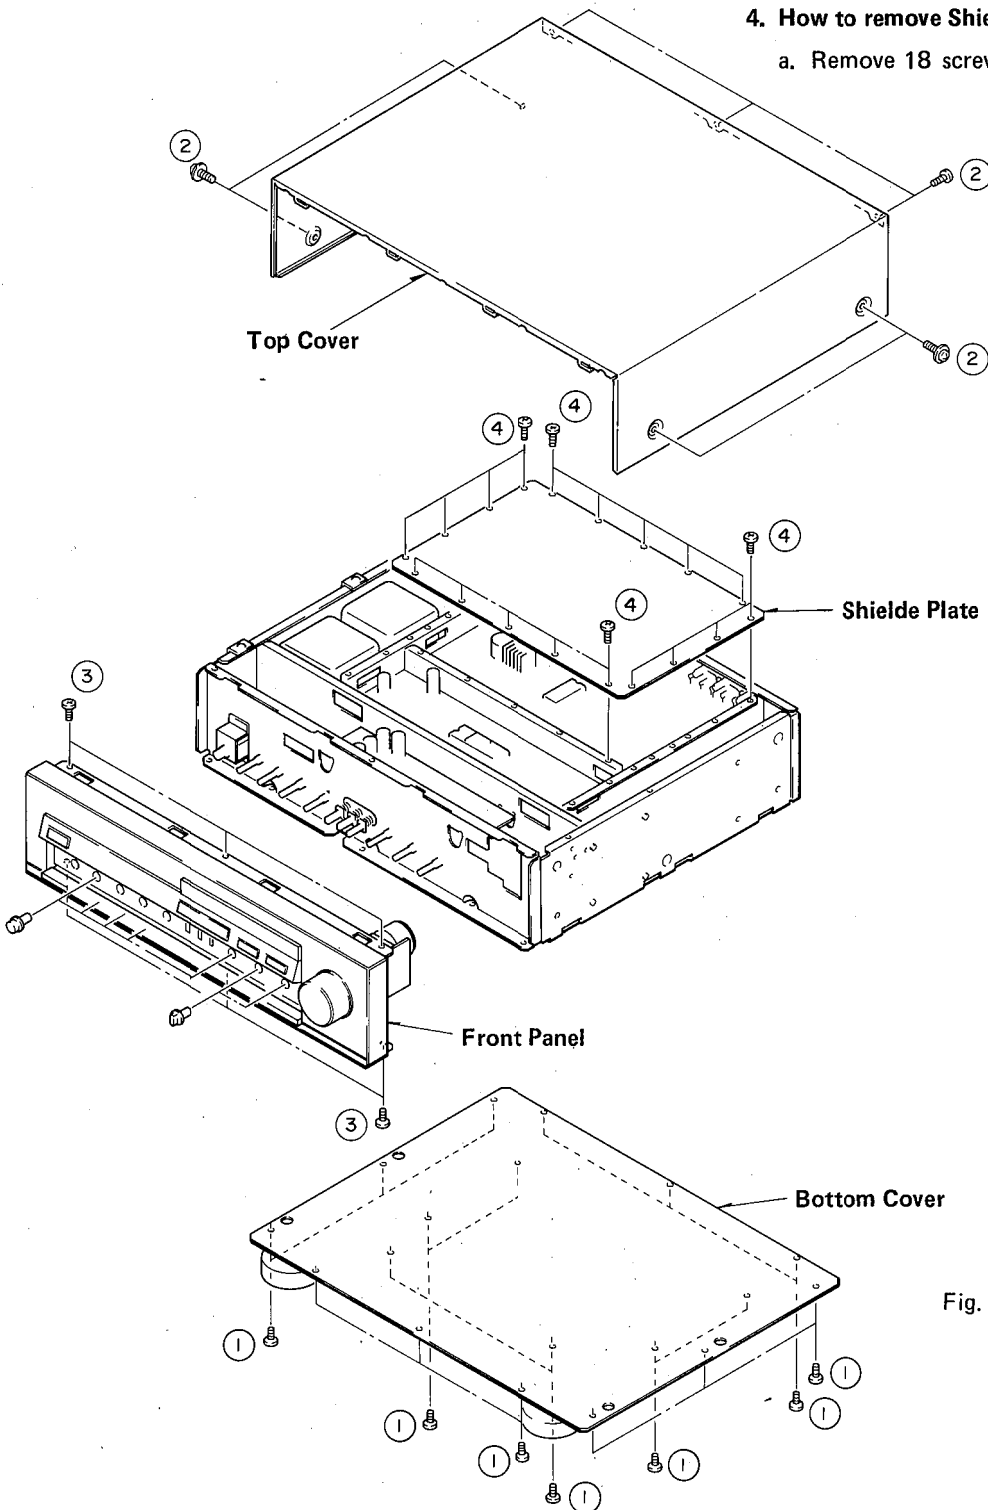

Fig. 1
- a. Remove 18 screws ① of Fig. 1.
- a. Remove 7 screws ② of Fig. 1, remove the cover trying to lift in up.
- c. Remove 6 screws ③ of Fig. 1, and remove the Front Panel trying to pull it toward you.
- a. Remove 18 screws ④ of Fig. 1.
- a. Remove 18 screws of ① of Fig. 1.
- a. Remove 3 screws of ② of Fig. 1, and remove the Top Panel B.
- b. Remove 4 screws of ③ of Fig. 1, and remove the Top Panel A.
- c. Remove 6 screws of ④ of Fig. 1, and remove the Front Panel trying to pull it toward you.
- a. Remove 16 screws of ⑤ of Fig. 1.
- a. Remove 6 screws of ⑥ of Fig. 1.